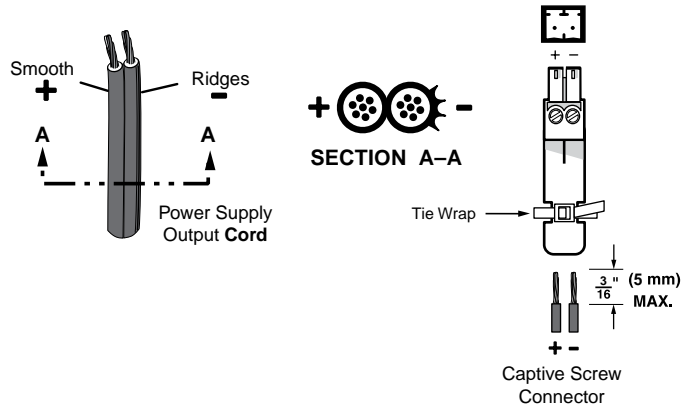

Figure 10. Power Connector Wiring
Figure 10 shows how to wire the power connector.
- Power supply voltage polarity is critical. Incorrect voltage polarity can damage the power supply and the unit. The ridges on the side of the cord (figure 10) identify the power cord negative lead.